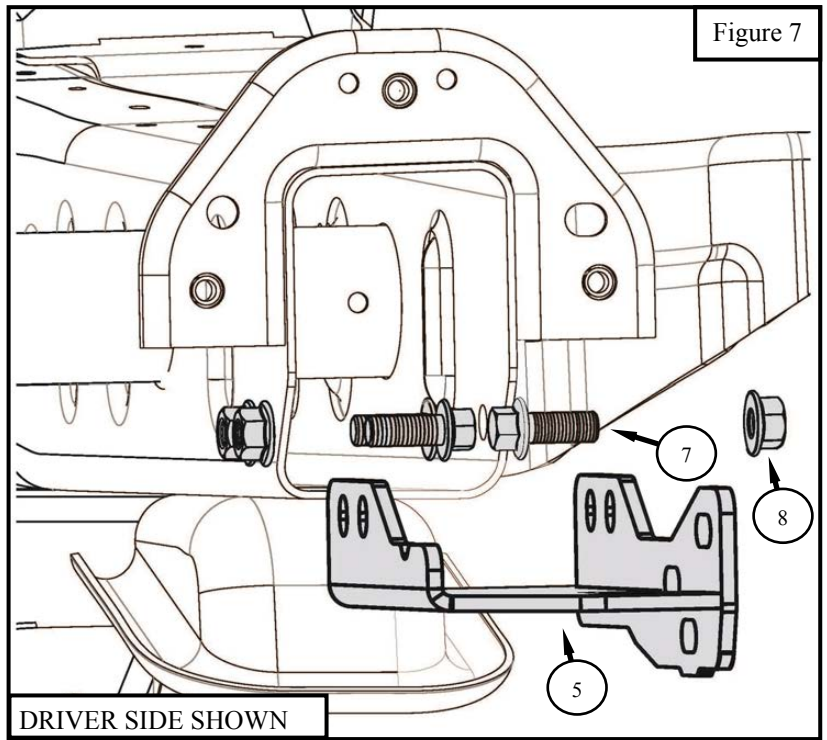

Figure 7
- Loosely attach the Bottom Bracket by using (3) M12 Hex Head Flange Bolts (item 7) and (3) M12 Serrated Flange Nuts (item 8). (Figure 7)